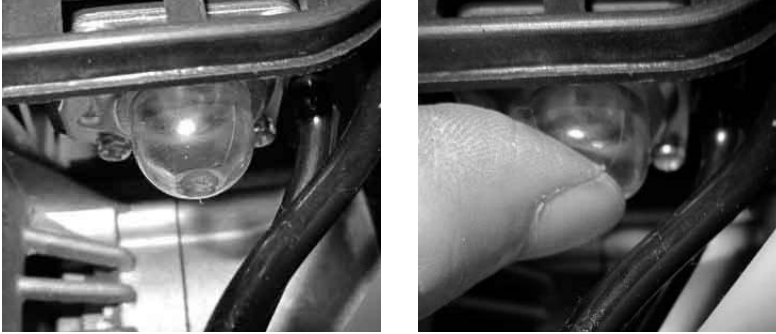

Fig.12
- 1) Press the fuel pump several times until it fills with fuel. (fig.12)